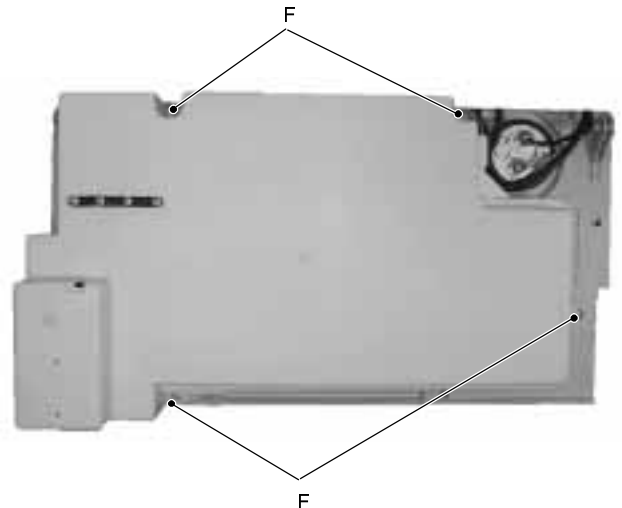

fig. 8
- 2 Remove the four screws *F* (fig. 8) and remove the plastic cover.